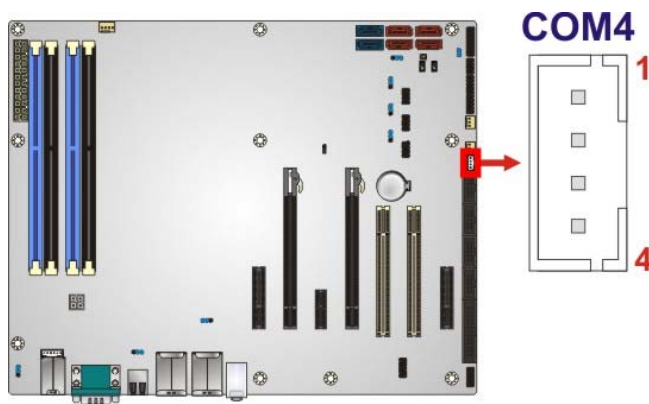

Figure 3-23: RS-422/485 Connector Location
- CN Location:** See **Figure 3-23**